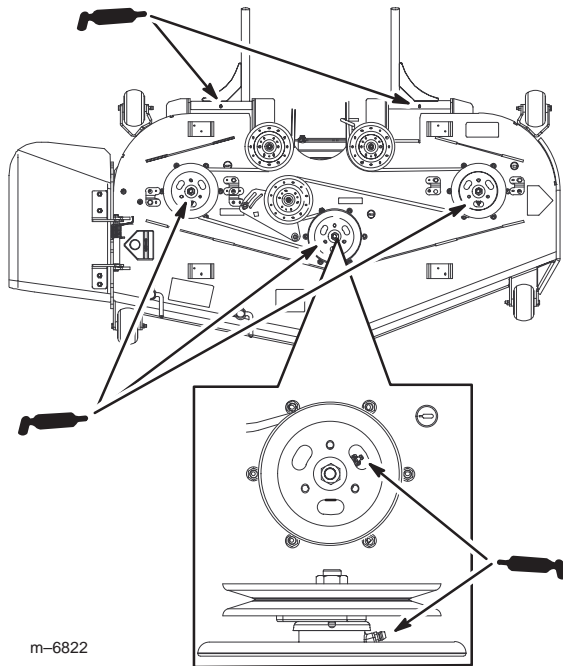

Figure 44
3. Grease the three spindle bearings under the pulleys until grease comes out the lower seals (Fig. 44).
4. Grease the fittings on the push arms (Fig. 44).